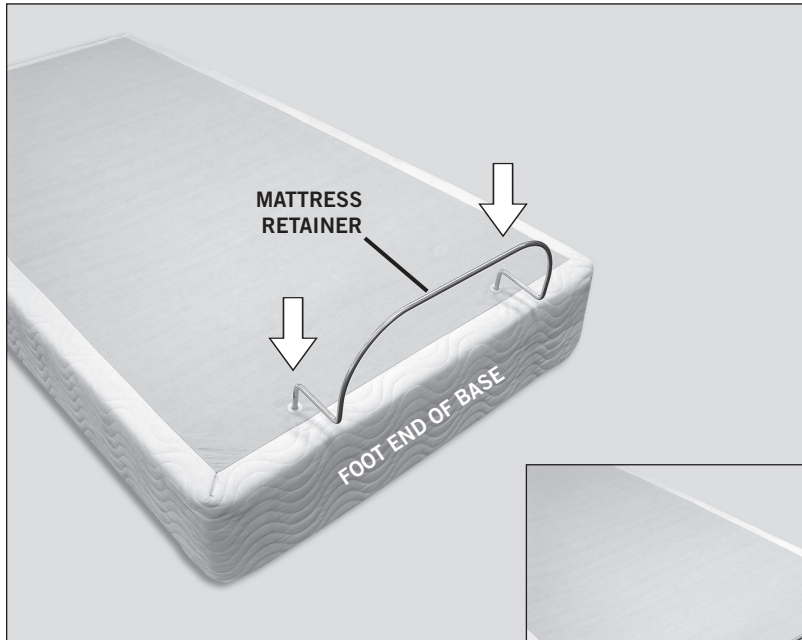

FIGURE 5: Mattress retainer installation.
- b. Place mattress retainer ends into grommets in top surface of adjustable base (**FIGURES 5 and 6**). Press down until horizontal retainer section is flush against base.